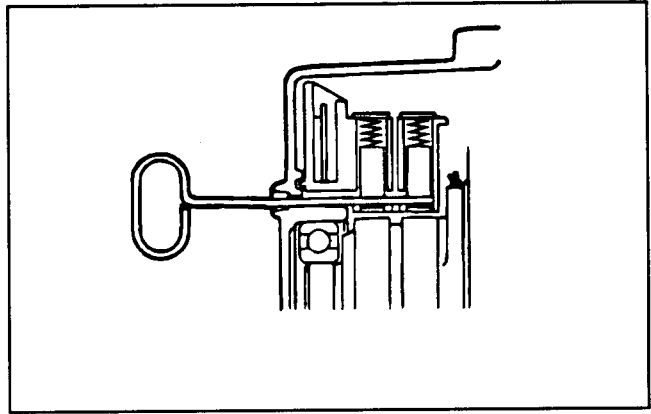

Figure 58
**IMPORTANT:** Put a wire through the small hole in the rear bracket to lift the brushes before installing the rotor to the rear bracket (Fig. 58). Remove the wire after the rotor is installed.